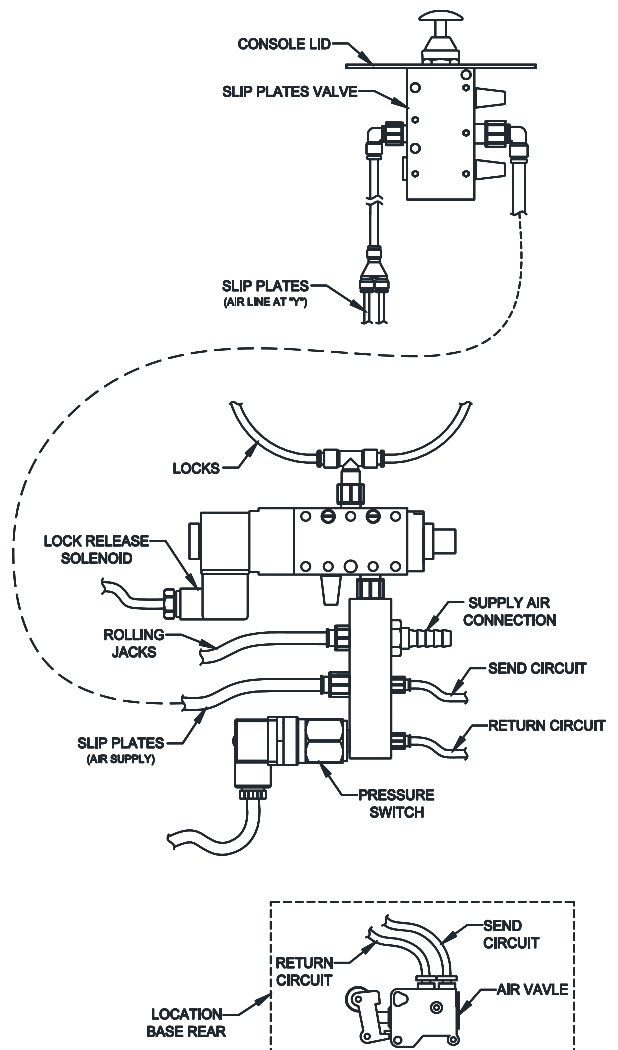

Fig. 7 – Pneumatic Connections
- 19) The air lines from the lift can be identified using the following table. Connect each air line according to **Fig. 7**.